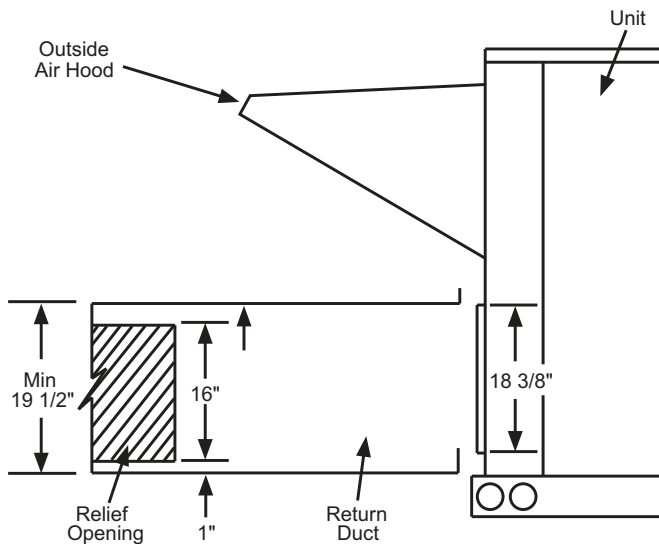

Fig. 34 — Relief Damper
1. Install the field provided horizontal ductwork onto the unit. Duct height must be at least 19-1/2 in. high, however the duct can be no taller than the top of the relief opening in the bottom panel, or airflow into the outside air hood will be restricted. See Fig. 34.
2. Cut a 16 in. x 36 in. opening in the return duct for the relief damper (see Fig. 34).